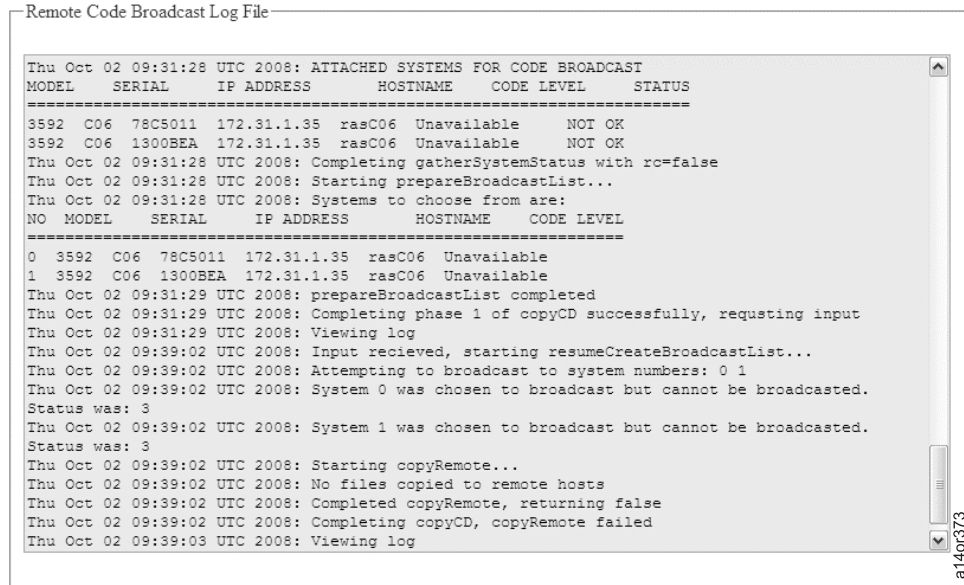

Figure 3-12. Remote Code Broadcast Log File. See Table 3-2 for a list of the possible status messages.
- Option 2: After you select the systems to broadcast and the page reloads, you see a status message at the top of the screen. Use option 2 "View the Log File" to see the details of the broadcast. This log lists the code that was successfully broadcast and the code that was successfully finalized. If an error occurred, the log file will specify where the load failed. Figure 3-12 on page 3-11 shows you a sample of status in a log file.
Table 3-2. Code Load Status Messages - From Web Interface. See Figure 3-12 for an example of broadcast status.